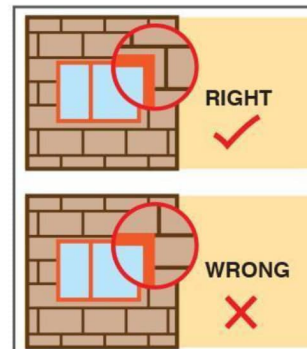

Fig. 5
**1.3.1** Install boards horizontally, staggering the boards and overlapping substrate joints. Refer to fig 4 and fig 5. Ensure the entire surface of the Marmox boards is level prior to the application of the next step.